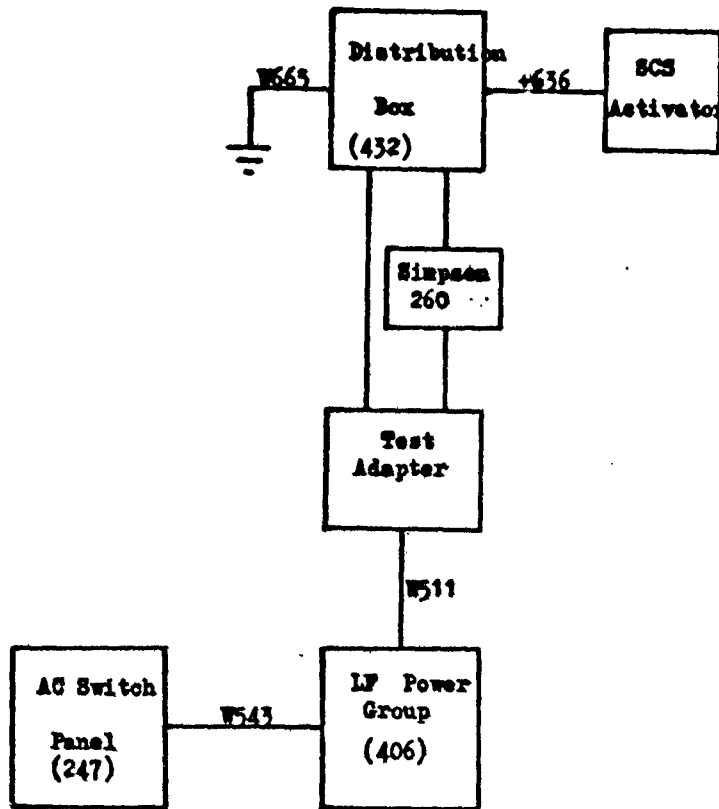

Figure 3.2.1.4
3.1 Connect the equipment per Figure 3.2.1.5-1, with cable W595 disconnected.